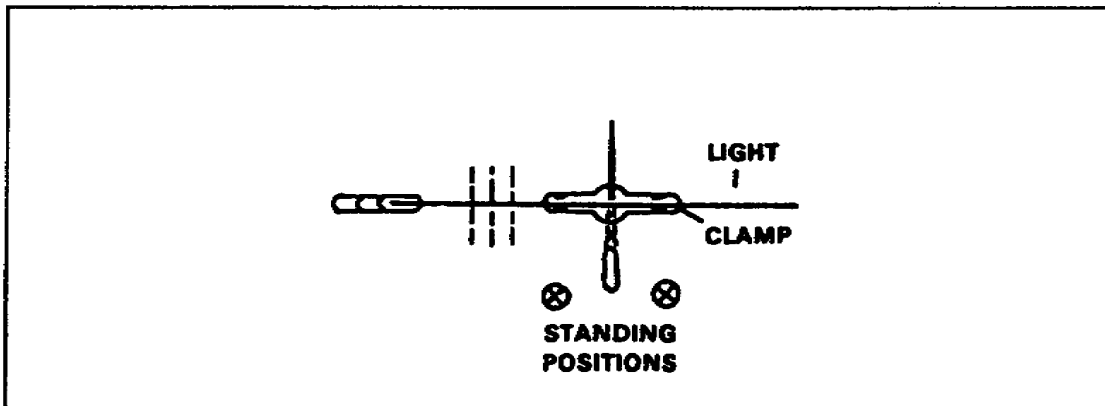

Figure 2-15. Beveling a rip saw
(4) Beveling. To file a rip saw, place the saw securely in a saw vise. File straight across the front of the teeth using a three-cornered file. Lower the file handle from 2 to 3 inches. This gives a bevel on the top of each tooth that leans away from you. File down the length of the saw, starting with the heel end and using the same amount of pressure on each stroke (Figure 2-15).